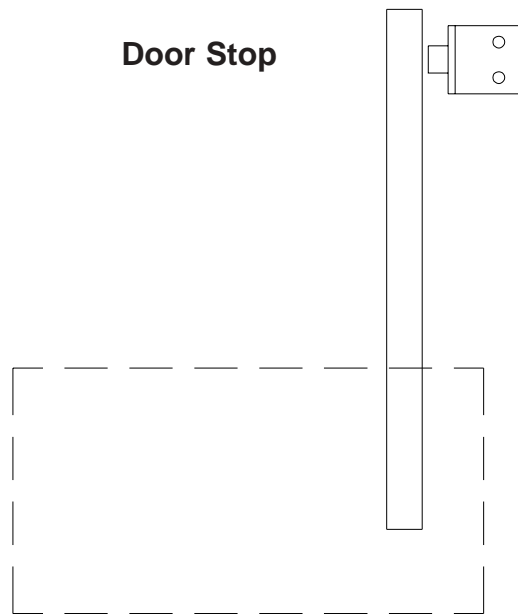

FIGURE 10
17. Field locate floor door stop to prevent overtravel by door. (See figures 10 & 11)